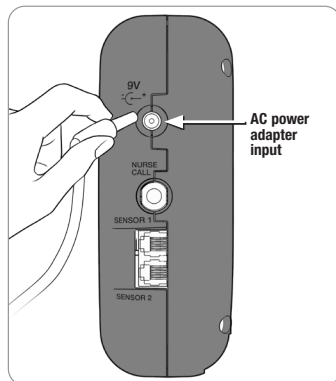

Fig. 11
1. Connect the AC power adapter to the Sitter On Cue PRO (Fig. 11).